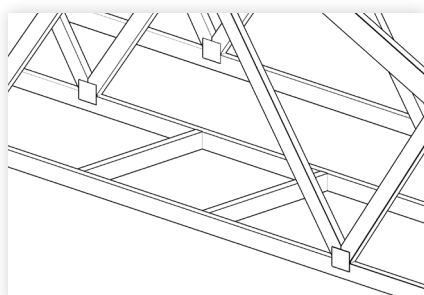

figure 3
1. The Q24 Attic Ladder is specifically designed to fit lengthways between trusses fitted at 900mm centres (figure 3). It is only suitable where the height of the ceiling is no more than 2440mm.